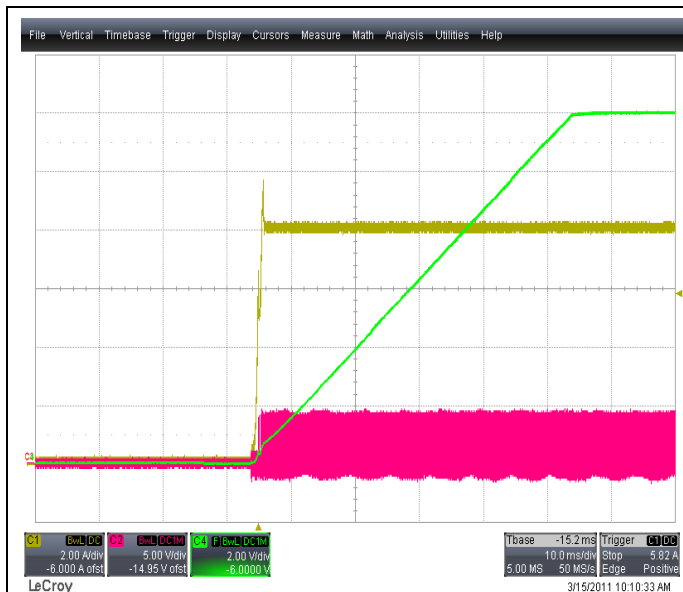
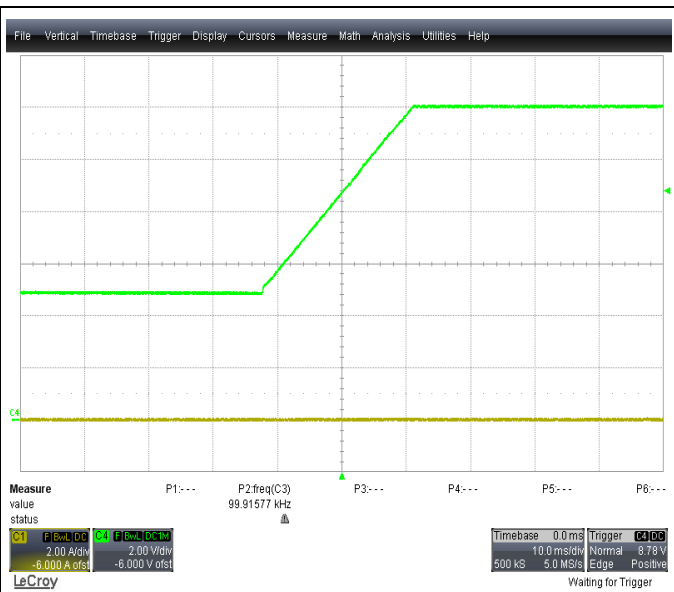

Figure 14 – Softstart ramp, 48VDC, 8A load, with synchronous rectifiers enabled during softstart.
Figure 15 - Startup with softstart from pre-charge
- A. **PS\_ON Turn on Delay:** Figure 14 and Figure 15 show the startup sequence with a 0.5 second and 2 second delay respectively.